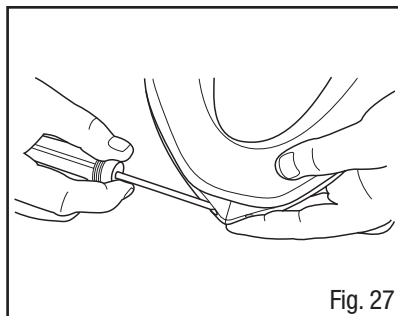

Fig. 27
1. Remove the Phillips screw from frame. Pull the frame away from the face seal (Fig. 27).
6. Remove the Phillips screw from frame. Pull the frame away from the face seal (Fig. 27).